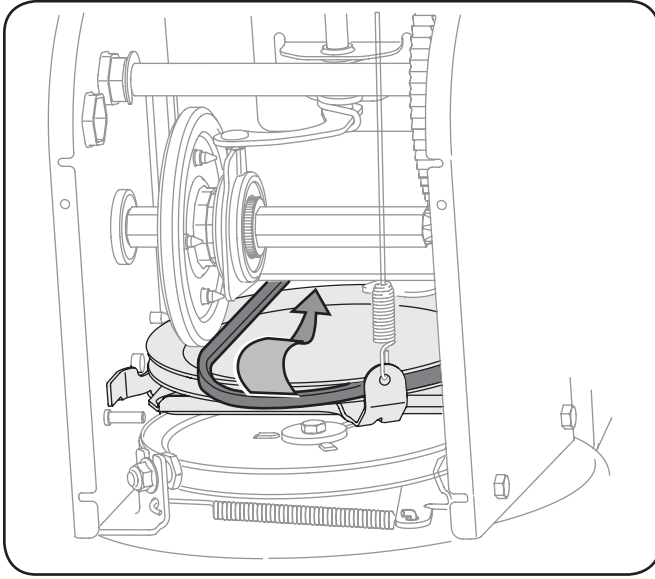

Figure 7-7
6. Slip the drive belt off the pulley and between friction wheel and friction wheel disc. See Fig. 7-7.